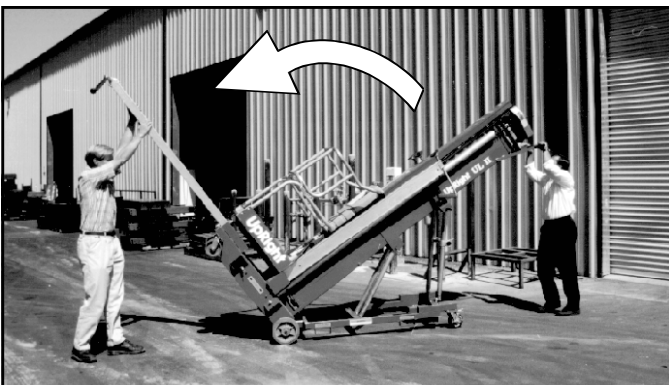

Figure 3-18: Extending the Gas Springs
4. Push up first on the upper handle bars, then on the lower handle bars while another person receives the outrigger and pulls it downward until the gas spring assembly is fully extended (fig. 3-18). **DO NOT** stand under the outrigger when performing this operation.